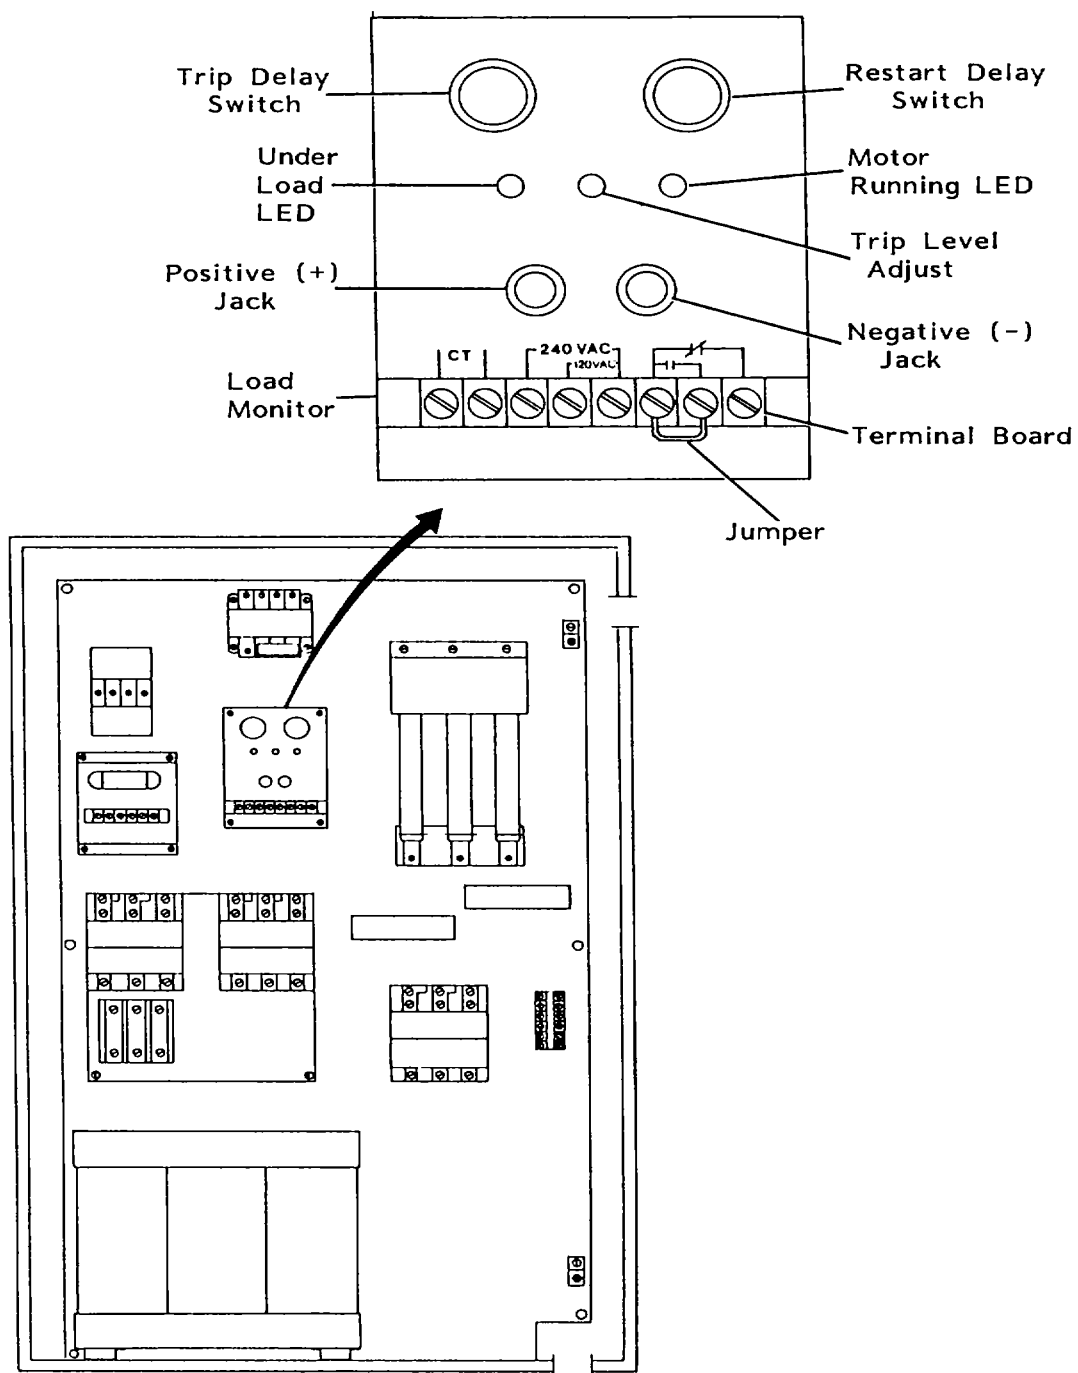

Figure 2-55. Setting Load Monitor
- (2) Unlock door locks and open panel door.
- (3) Disconnect pump cable leads at T1 and T2 and reverse their locations.
- (4) Close and lock the panel door and re-start pump (refer to step b. above) .
- (5) If pumping volume increases, pump is now performing at maximum. If volume is less, repeat steps (1) through (4) to return leads to their original locations.
- e. Turn the TRIP DELAY and RESTART DELAY switches to OFF, then install a temporary jumper to load monitor terminal board across the normally open (N.O.) contacts. (See figure 2-55).